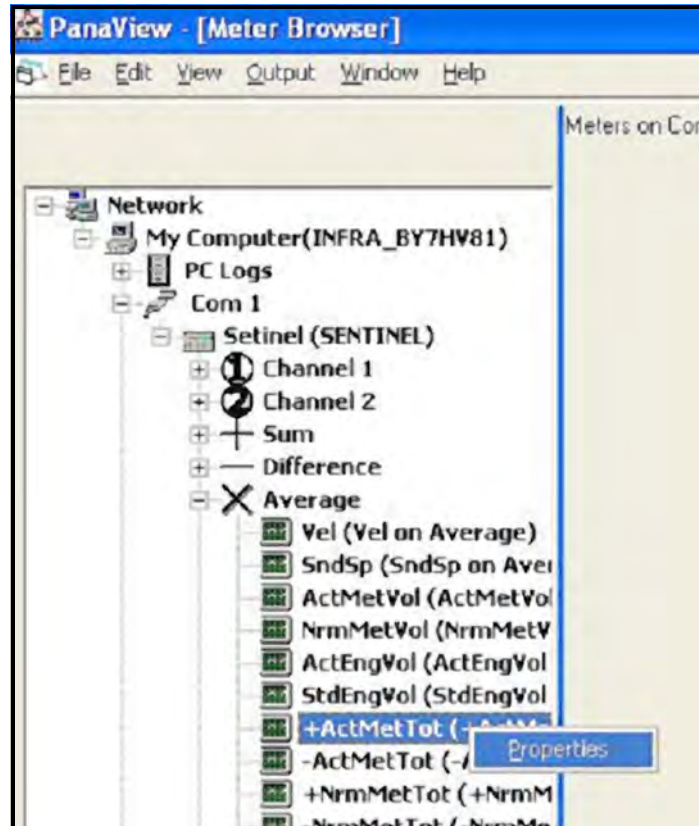

Figure 3-26: The Meter Browser Window
- Only PanaView can be used to reset the totalizers. Use the *Meter Browser* window (see Figure 3-26 on page 3-25).